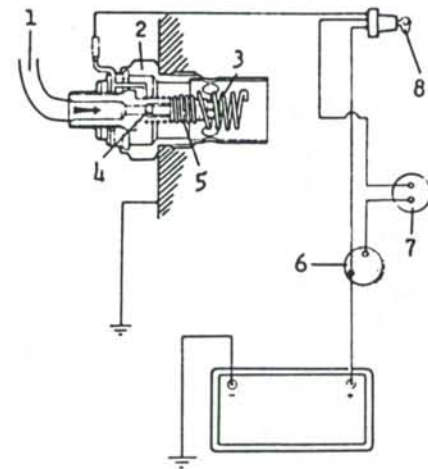

Fig. 107—Diagram of typical thermostart unit showing component parts and their relative positions.
System consists of a fuel reservoir connected to fuel return line, thermostart unit located in intake manifold and a switch which is an integral part of the starter switch. See Fig. 107.
When starter key (8—Fig. 107) is turned to **HEAT** position, electrical current energizes thermostart unit (2) in intake manifold. Current heats coil (5) which opens fuel valve (4) and changes fuel into vapor. Another coil (3) ignites fuel vapor which burns inside intake manifold and warms air going into the cylinders. This makes engine easier to start in very cold weather.